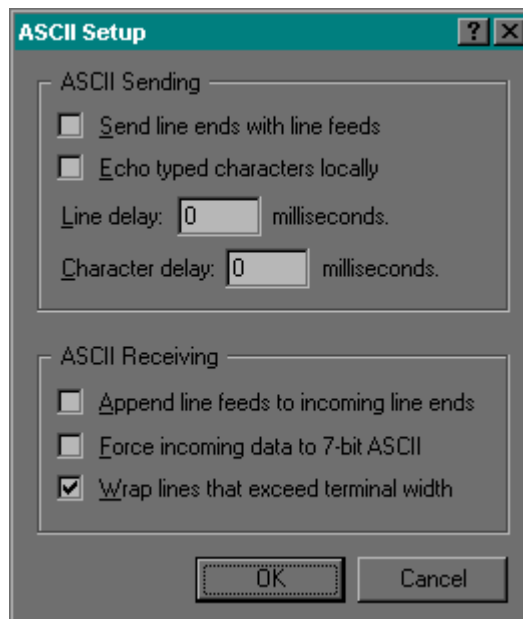

Figure 4-19. ASCII Setup window
14. Click on OK and then click on ASCII Setup. This will bring you to the ASCII Setup window as shown in Figure 4-19. Setup your window with the same parameters as those shown in Figure 4-19.